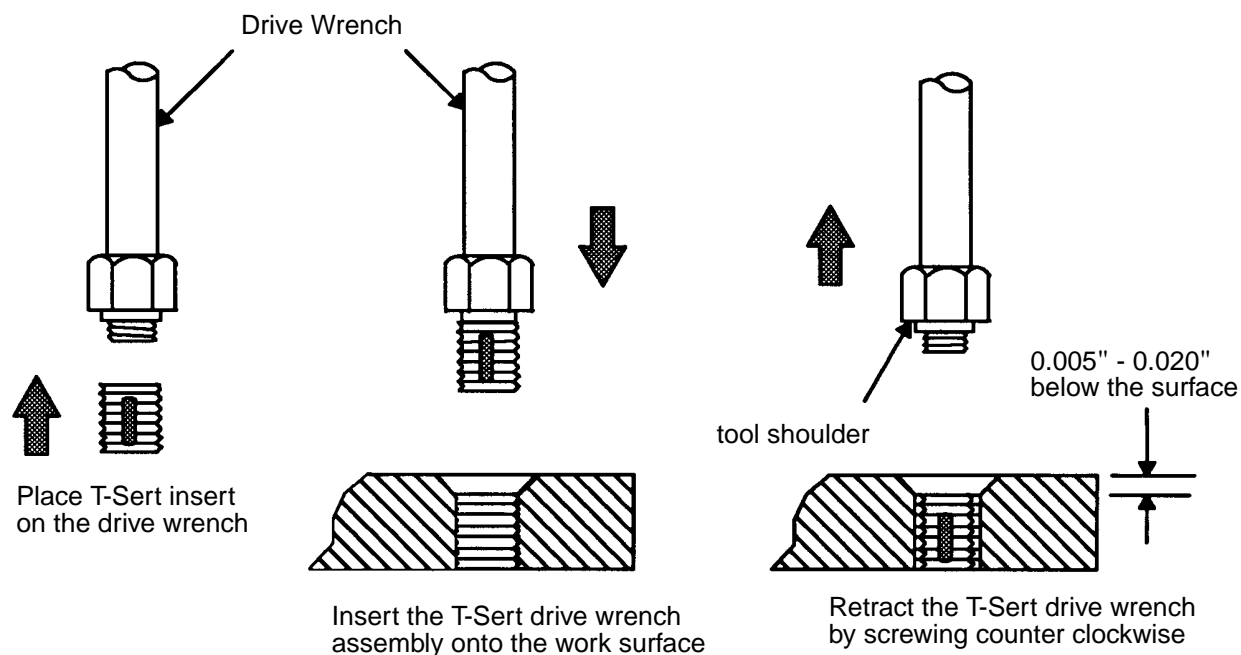

Figure 5 - Installation of Long-Lok T-Sert Inserts
5.4.1 Brush apply one coat of F19 Type 2 epoxy-polyamide primer to the holes and external threads of the inserts before installing inserts as follows (see Figure 5). Prepare F19 Type 2 epoxy primer according to PPS 34.08.